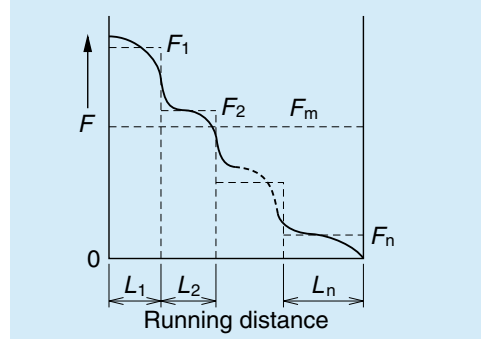

Fig. 2.3 Stepwise load change
(1) When load and running distance vary stepwise (Fig. 2.3)